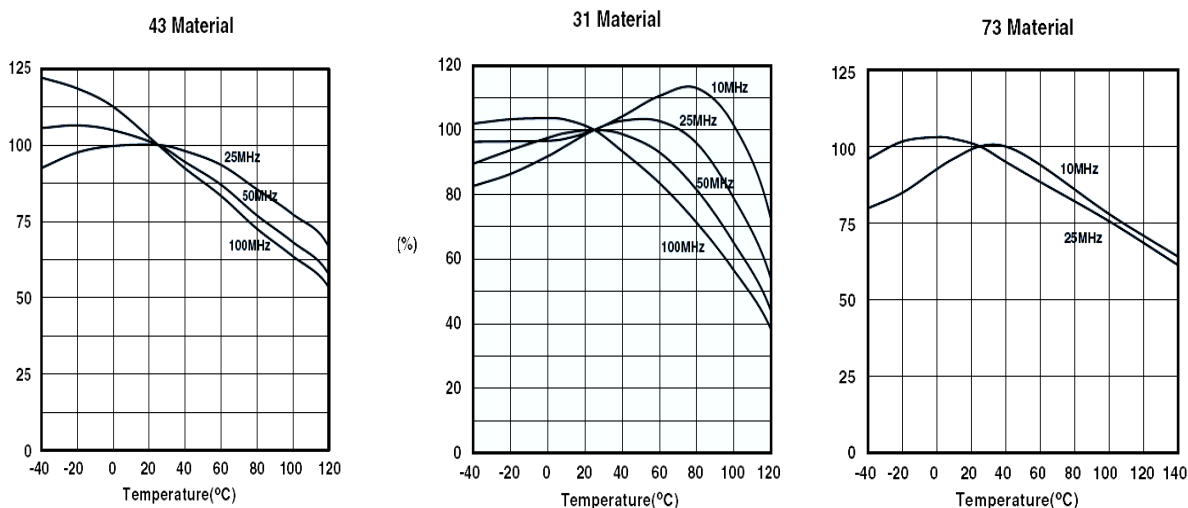

Fig 25 – Impedance vs. Frequency and Temperature as a percentage of impedance at 25°C
**Temperature** The permeability of ferrite materials varies as a function of both frequency and temperature, and different mixes behave very differently (Fig 25). Any RF current that produces a field in the ferrite will cause heating in the ferrite (and IR losses in the wire). If the current is small enough, the heat will be radiated and/or conducted as fast as it is produced. Larger currents, however, can cause temperature to increase. At some high temperature (the Curie temperature), the ferrite will temporarily lose its magnetic properties (until it cools). The Curie temperature is different for each mix. In the #43 and #73 materials, this will in turn cause permeability to fall, which in turn allows more current, which produces more heating. In other words, thermal runaway can occur if the current is large enough and the core is small enough.